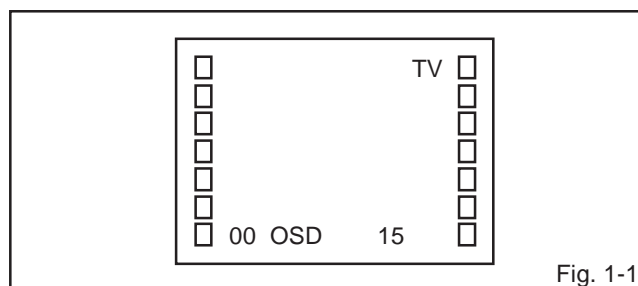

Fig. 1-1
Press the VOL. DOWN button on the set and the Channel button (9) on the remote control for more than 1 second to appear the adjustment mode on the screen as shown in **Fig. 1-1**.
3. Activate the adjustment mode display of **Fig. 1-1** and press the channel button (02) on the remote control to select "RF AGC".
3. Activate the adjustment mode display of **Fig. 1-1** and press the channel button (01) on the remote control to select "CUT OFF".